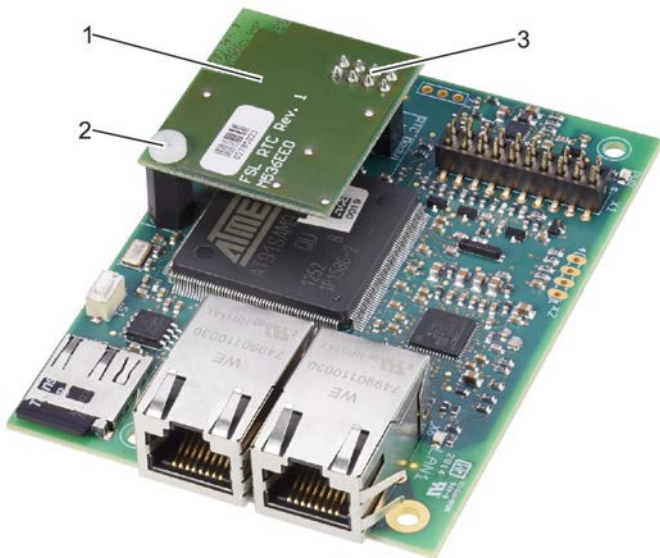

Fig. 47: Removing the RTC module
2. ▶ Remove the fixing screw (Fig. 47/2) of the RTC module (Fig. 47/1).